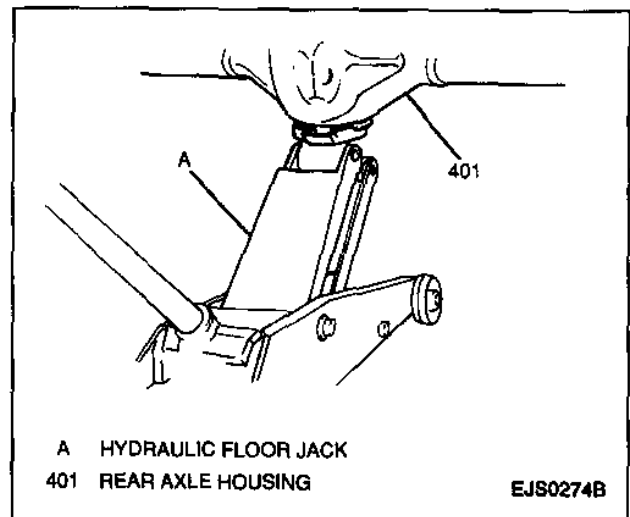

Figure 27—Supporting Rear Axle Housing
14. Support rear axle housing with a suitable hydraulic floor jack (Figure 27).